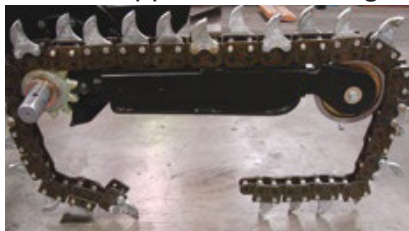

Figure 31
5. Raise the Trencher and support it from falling. Bring both ends of the chain under the boom [Figure 31].